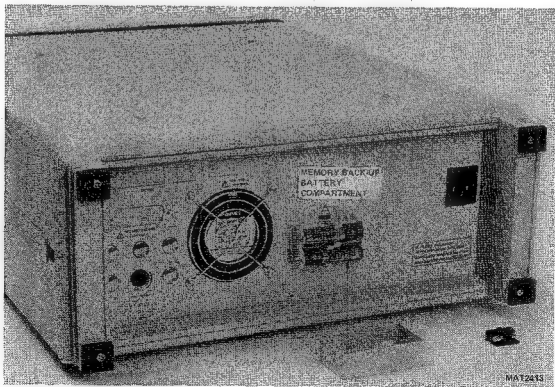

Figure 3.2 Rear view showing the battery compartment.
- remove the cover of the battery compartment located on the rear panel, by pressing the two locking tongues towards each other and pulling (see Fig. 3.2). The battery holders are now accessible.
- insert the two penlight batteries, paying attention to the polarity indication marked on the holder (also on Fig. 3.2).